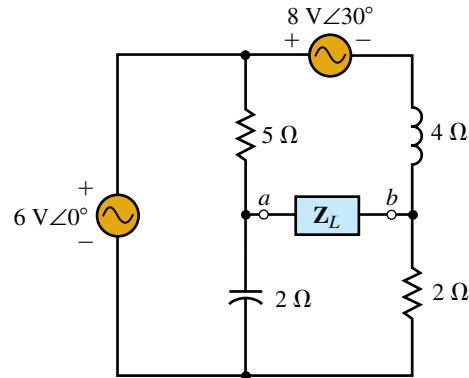

FIGURE 20–85
43. Repeat Problem 41 for the circuit of Figure 20–85.